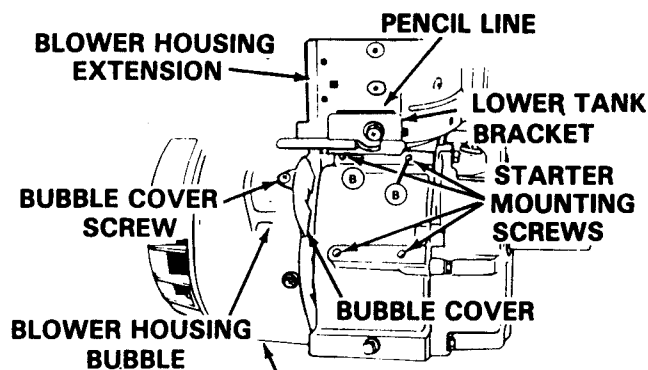

FIGURE 51
1. Remove "bubble cover screw" and "bubble cover" if so equipped (See Figure 51). Discard both parts.
- A. NOTE: CHECK TO SEE IF THE TOP HOLES (⊙), FIGURE 51 FOR MOUNTING STARTER HAVE SHOULDER BOLTS INSTALLED. IF SO, DISREGARD STEPS 1 THRU 5 (DO NOT REMOVE FUEL TANK).
4. Mark "blower housing extension" with a pencil along upper edge of "lower tank bracket" (Figure 51) to insure replacement of bracket into the same position.
6. Locate the four (4) "starter mounting holes" on engine, see Figure 48. Position starter on engine as shown in Figure 51 and attach starter to engine with four (4) "starter mounting screws." The 2 lower screws will also be used to attach the solenoid starter bracket as shown in Figure 51. Tighten screws securely, 50 to 60 inch pounds.
7. Reassemble "lower tank bracket." Be sure bracket is mounted in the same position, as before removal (see Figure 51).
5. Locate the four (4) "starter mounting holes" on engine, see Figure 48. Position starter on engine as shown in Figure 51 and attach starter to engine with four (4) "starter mounting screws." The 2 lower screws will also be used to attach the solenoid starter bracket as shown in Figure 51. Tighten screws securely, 50 - 60 inch pounds.